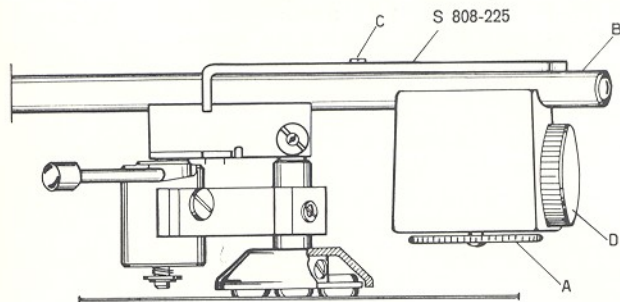

Fig. 8. Rear part of the pick-up arm.
- a) Place the counterweight underneath the pick-up arm extension B, the sliding tube entering the corresponding hole on the counterweight (see Fig. 8).
- a) Place the stylus force calibration plate (part S 808-225) on top of the pick-up arm extension B according to Fig. 8 and 9, with pin C on the arm extension in the slot of the calibration plate. **Position the calibration plate with pin C in the indentation of the scale corresponding to the stylus force recommended by the cartridge manufacturer. Each indentation corresponds to $\frac{1}{4}$ gram.**